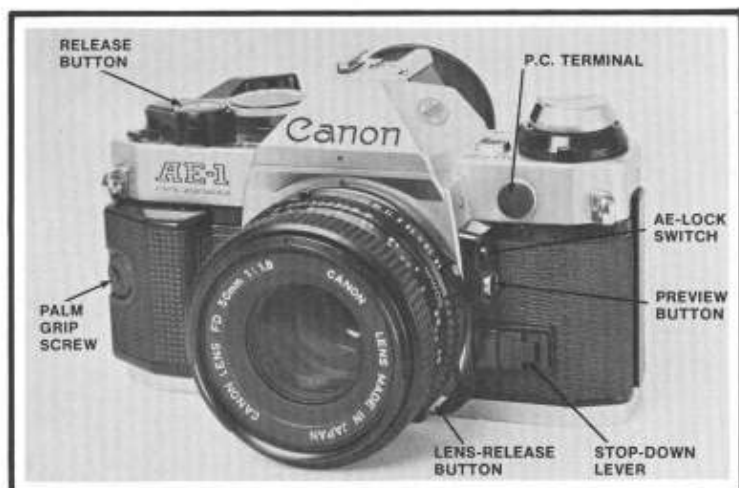

Figure 1
- **LENS:** Accepts all Canon breechlock lenses. To remove the new-style lens, push the lens-release button and rotate the lens in a counterclockwise direction, Fig. 1. At the auto setting, a pin at the back of the lens pushes in the EM change pin in the lens mount. The diaphragm-control lever at the side of the lens mount then determines how far the diaphragm can close. The lens sets the maximum-aperture information by pushing in the maximum-aperture correction pin at the bottom of the lens mount. Flange-focal distance (back focus): 42.14mm (front of lens mount to pressure-plate rails), 41.9mm (lens mount to film-guide rails). Tolerance:  $\pm 0.02$ mm. Adjust by shimming the lens-mounting ring.